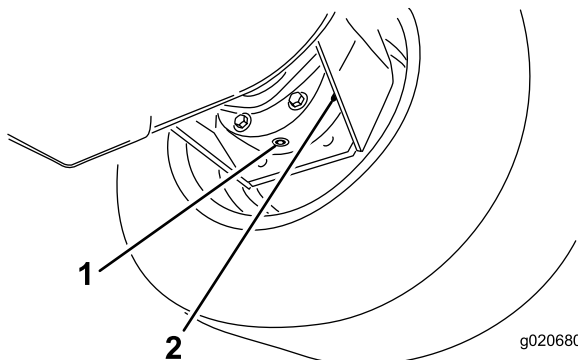

Figure 92
3. Place a drain pan under the brake housing, remove the drain plug, and allow the oil to drain (Figure 92).